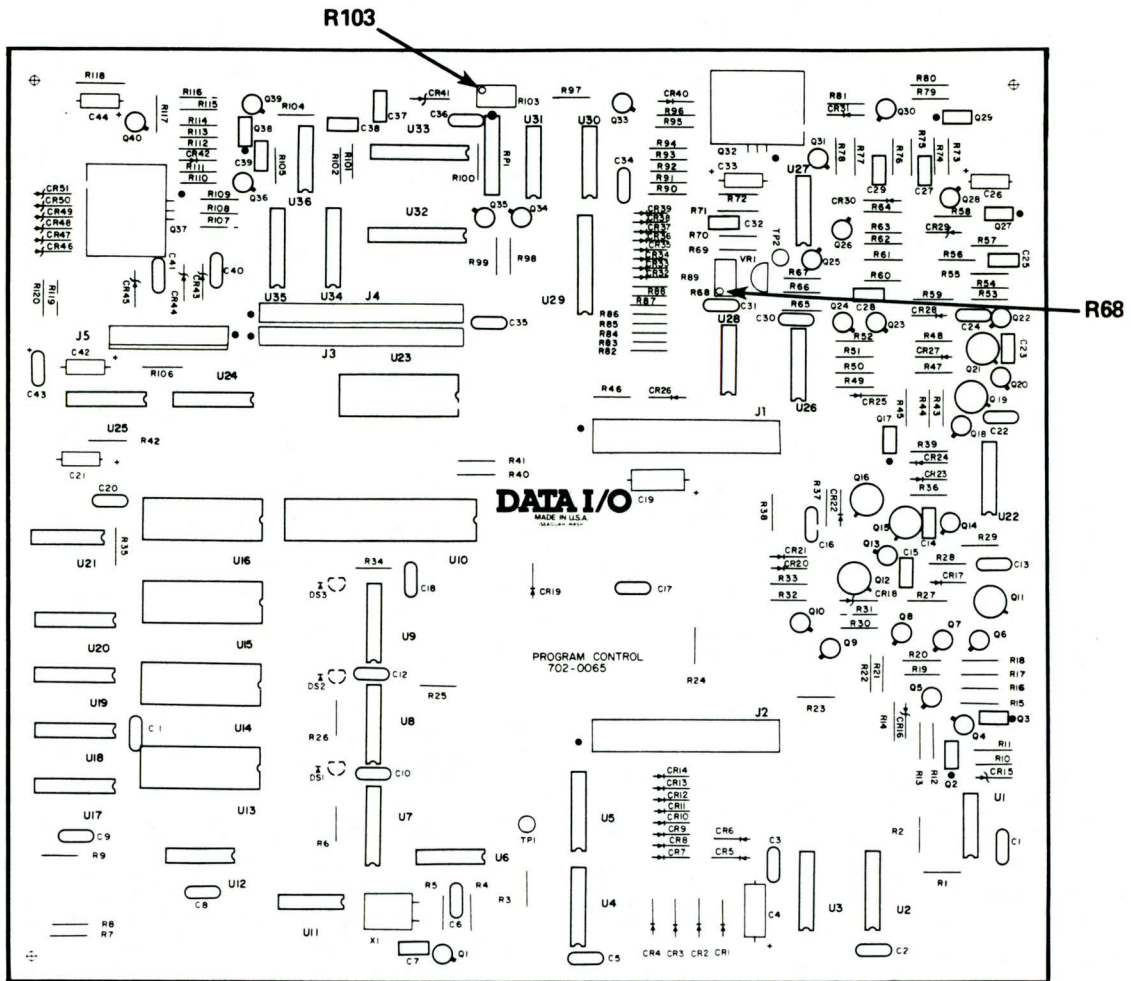

Figure 4-5. Potentiometer Locations
- a. Refer to Figure 4-5, which shows the potentiometers used for voltage adjustments. These potentiometers are called out in the ADJUSTMENT LOCATION column of the Measurement Chart.